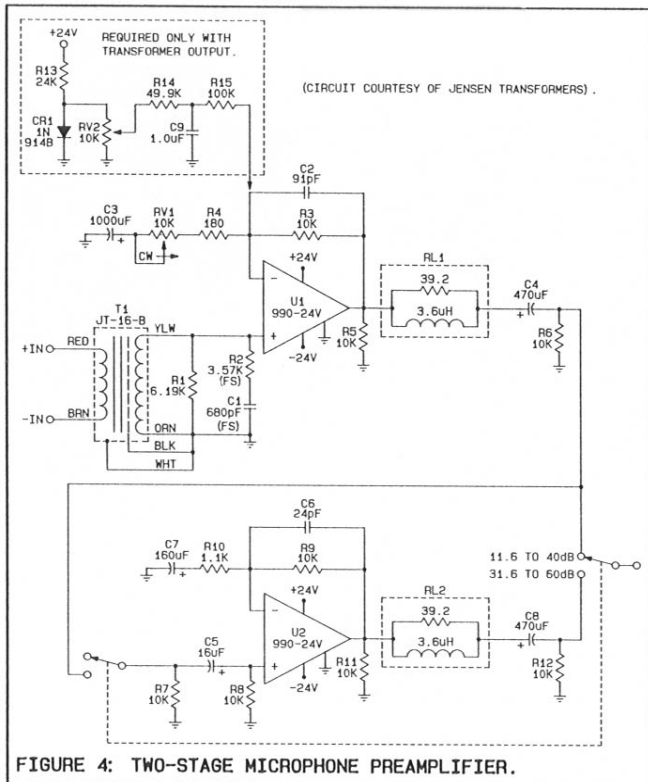

FIGURE 4: TWO-STAGE MICROPHONE PREAMPLIFIER.
**Figure 4: Two-stage mic preamp.** Figure 4 shows a two-stage transformer-coupled mic preamp, recommended for situations where extremely high gain is required. The first stage is the same as the single-stage preamp of figure 1 except the maximum gain is about 40dB. A switchable second stage with 20dB of gain gives a choice of single-stage operation with up to 40dB of gain (including the transformer step-up), or two-stage operation with up to 60dB of gain. The 2nd stage could be changed to adjustable gain. Ideally each stage would have the same amount of gain.